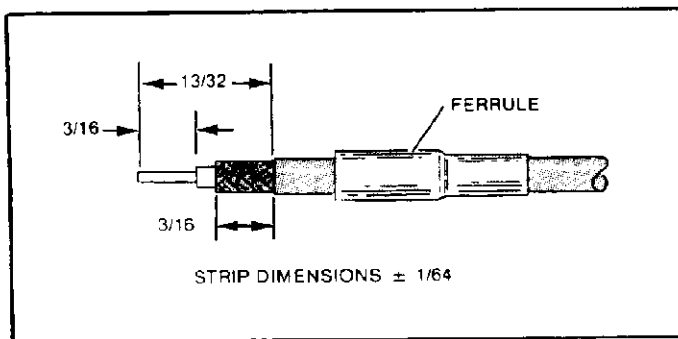

Figure 3
- Slide ferrule, small end first, on cable; then strip cable to dimensions in Figure 3.